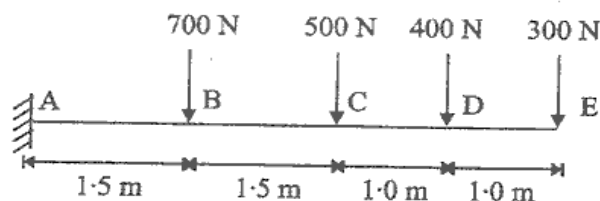

Fig. 3
- (b) Draw the shear force and bending moment diagrams for the beam shown in fig. 3 : 10